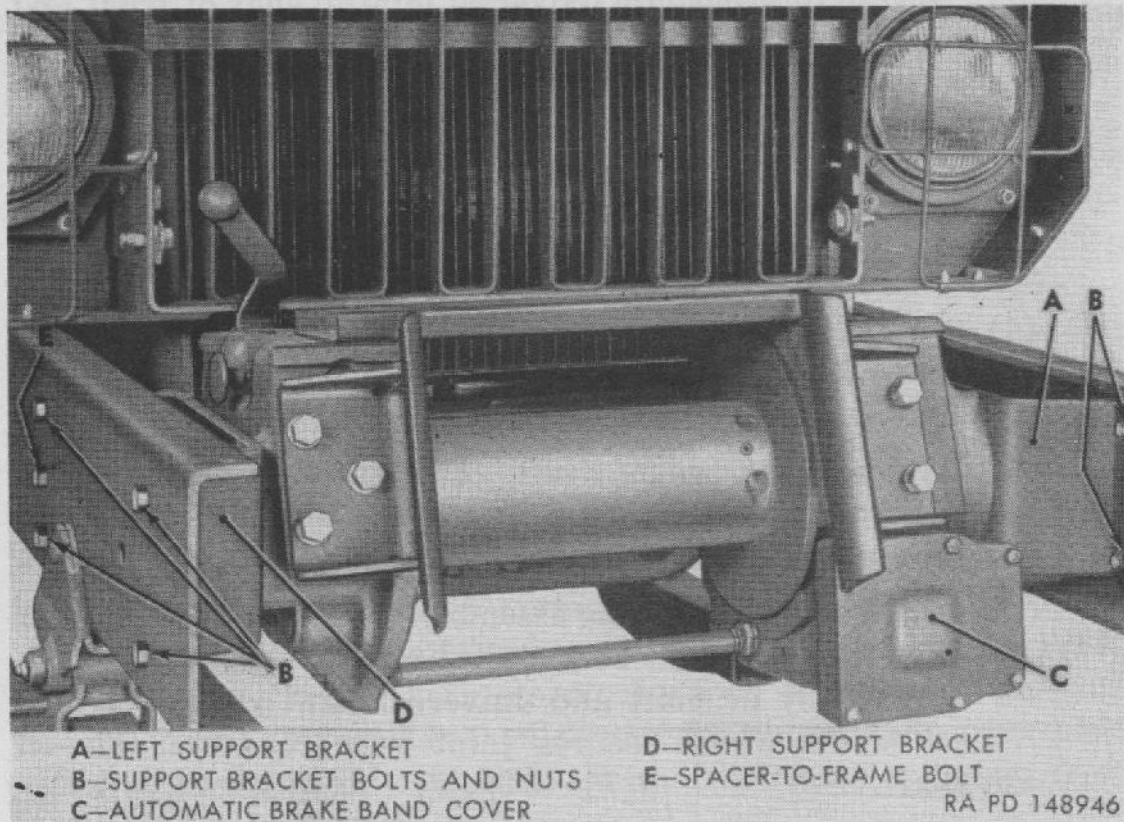

Figure 191. Winch installed (bumper removed).
- c. Remove four bolts and nuts which attach each winch support bracket at right and left sides (fig. 191). Do not remove spacer-to-frame bolt at each side.
- c. Supporting winch with chain hoist, guide winch with support brackets attached between frame side member channels (fig. 191). As winch is pushed toward rear, guide front universal joint splines onto front drive shaft splines.